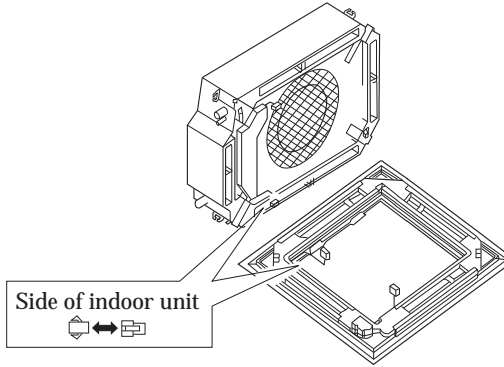

Figure 7
- ⑥ Connect the wire end of the louver motor installed on the decorative panel (referring to Figure 7).